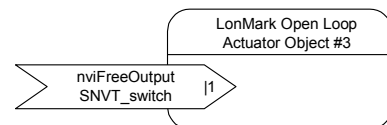

Fig. 8. Open Loop Actuator Object
- two open loop actuator objects (#3) (see Fig. 8)